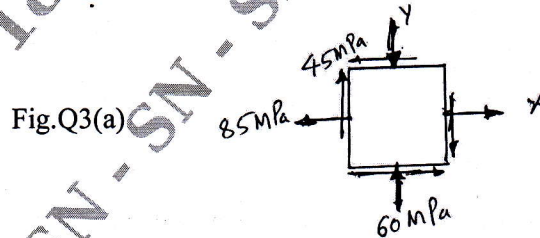

Fig.Q3(a)
- 3 a. A point in a member is subjected to stresses as shown in fig. Q3(a). Determine